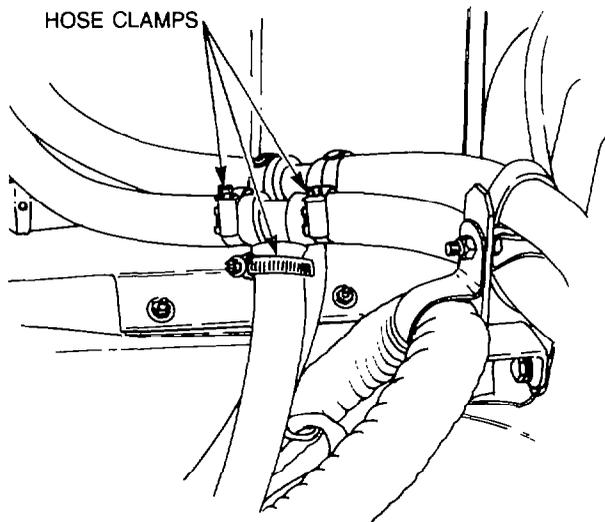

Figure 4 — Heater Hoses — Removal
- c. Drain the coolant from the engine cooling system, then loosen the heater hose clamps securing the module hoses to the tee piece connectors (see Fig. 4), located adjacent to the heater.